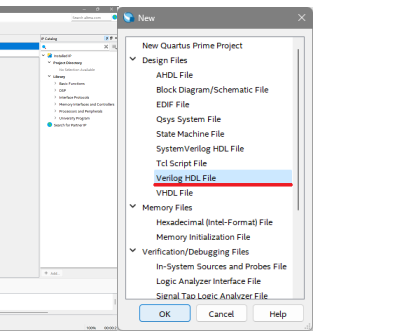

Figure 11: Select Verilog HDL File
2. Click "Verilog HDL File" in the "New" window. (Figure 11)